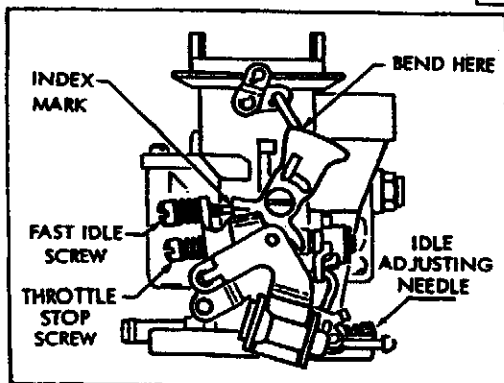

FIG. 2
V. FAST IDLE CAM POSITION (1962-63 See Figure 2)
VI. IDLE ADJUSTMENT (See Figure 2)
1962-63 (See Figure 2) Set fast idle screw on index mark of fast idle cam and adjust to proper R.P.M.